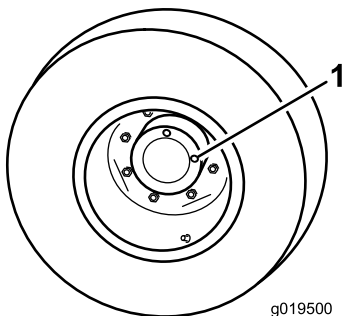

Figure 61
1. With machine on level surface, position the wheel so 1 check plug is at the 12 o'clock position and the other is at 3 o'clock position (Figure 61).
1. Check/drain plug (2)
2. Remove the plug at the 3 o'clock position (Figure 61).